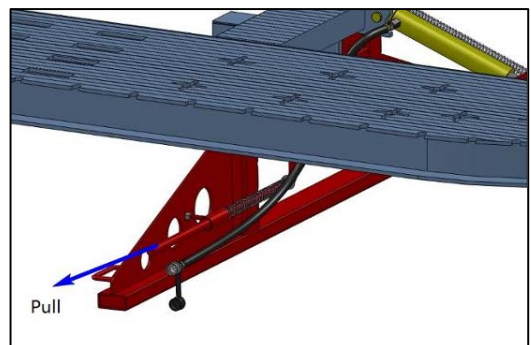

Figure 6.29
C. When the movable support left the ground, pull the locking bar out, swing the movable support. See figure6.29